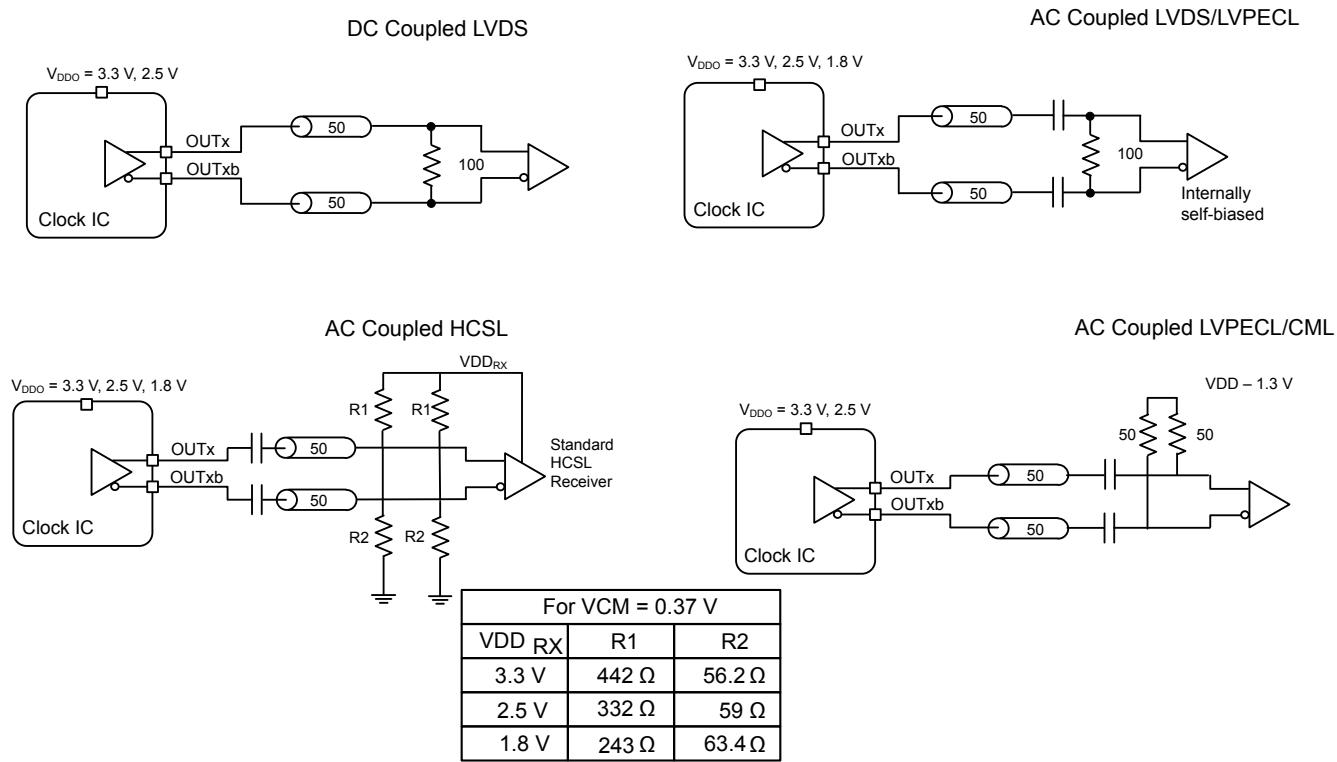

Figure 6.2. Supported Differential Output Terminations
**Differential Normal Swing Mode**—This is the usual selection for differential outputs and should be used, unless there is a specific reason to do otherwise. When an output driver is configured in normal swing mode, its output swing is selectable as one of 7 settings ranging from 200 mVpp\_se to 800 mVpp\_se in increments of 100 mV. Differential Output Voltage Swing Control Registers lists the registers that control the output voltage swing. The output impedance in the Normal Swing Mode is 100  $\Omega$  differential. Any of the terminations shown in Figure 6.2 Supported Differential Output Terminations on page 43 are supported in this mode.
**Differential High Swing Mode**—When an output driver is configured in high swing mode, its output swing is configurable as one of 7 settings ranging from 400 mVpp\_se to 1600 mVpp\_se in increments of 200 mV. The output driver is in high impedance mode and supports standard 50  $\Omega$  PCB traces. Any of the terminations shown in Figure 6.2 Supported Differential Output Terminations on page 43 are supported. The use of High Swing mode will result in larger pk-pk output swings that draw less power. The trade off will be slower rise and fall times.